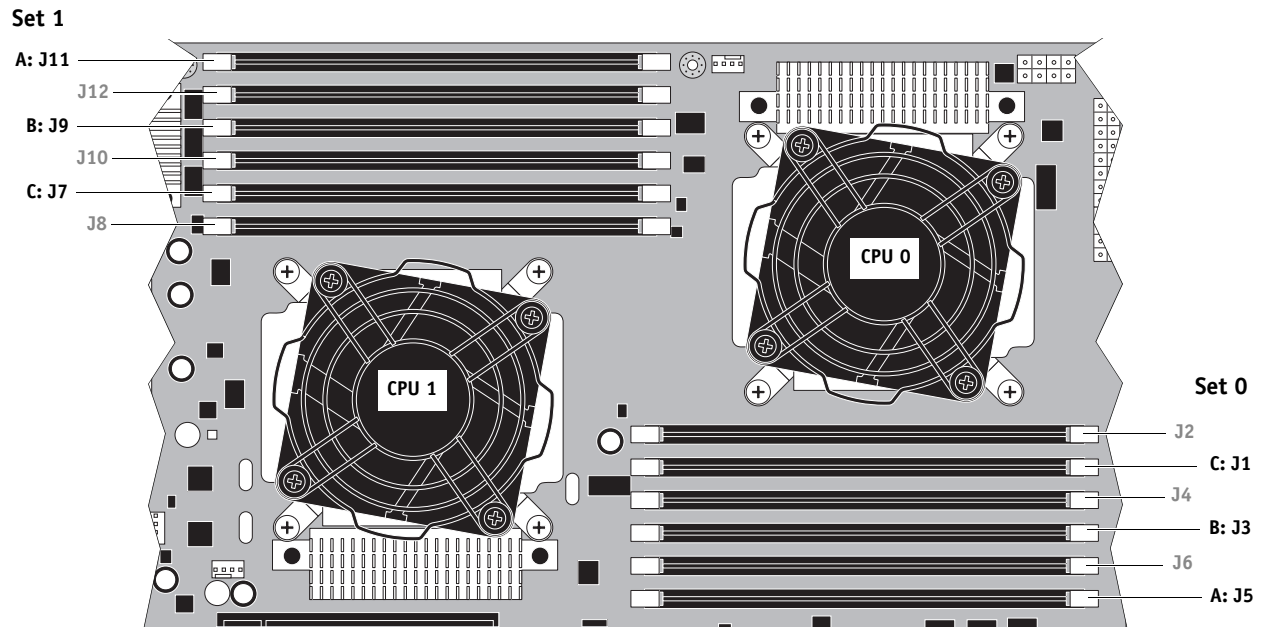

FIGURE 32: Motherboard DIMM sockets
The motherboard has twelve DIMM sockets organized into two sets, as shown in Figure 32.
- Only the odd-numbered sockets in Figure 32 on page 101 are used. *Do not* install DIMMs in even-numbered sockets J12, J10, J8, J6, J4, or J2.